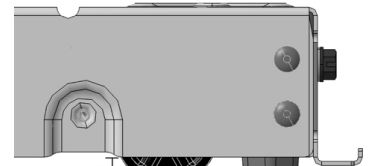

Fig. 7
- d. Attach the remaining Leveler Assembly as described in the previous 3 steps. With the unit still on its back, adjust all leveling wheels to approximately the orientation in Fig. 7.